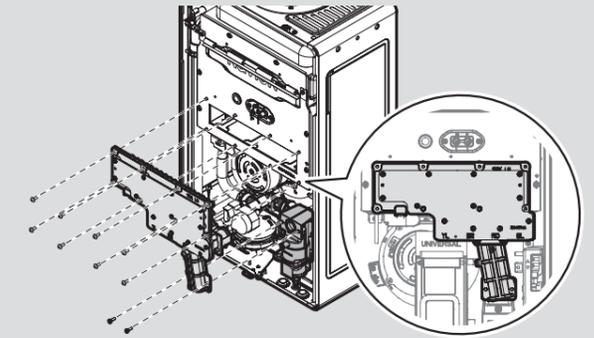

Figure 4-2
5. Remove the ignition transformer and disconnect the flame detector cable and the multi-stage gas valve cable. Then, remove the 10 bolts as shown in Figure 4-2 to detach the original Gas Manifold Assembly from the water heater.